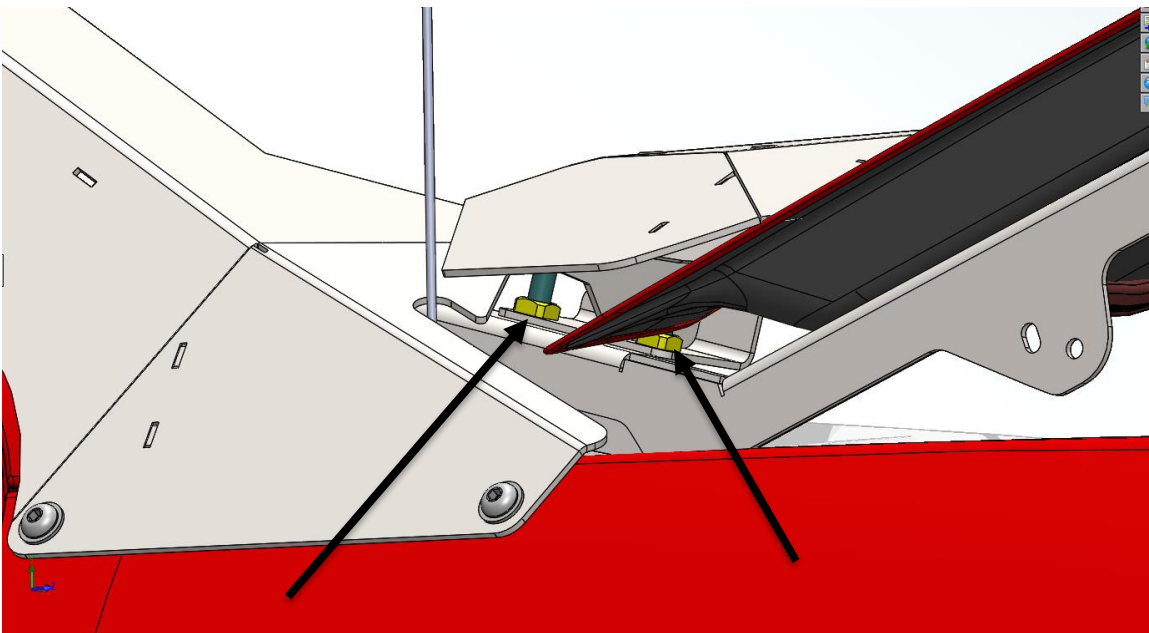

Fig 16
- q. Raise the hood slowly and hand tighten the four $\frac{3}{8}$ "-16 hex head bolts, zinc lock washers, and zinc flat washers securing the Cowl to the hood hinge brackets as shown in **Fig 16** with the black arrows.